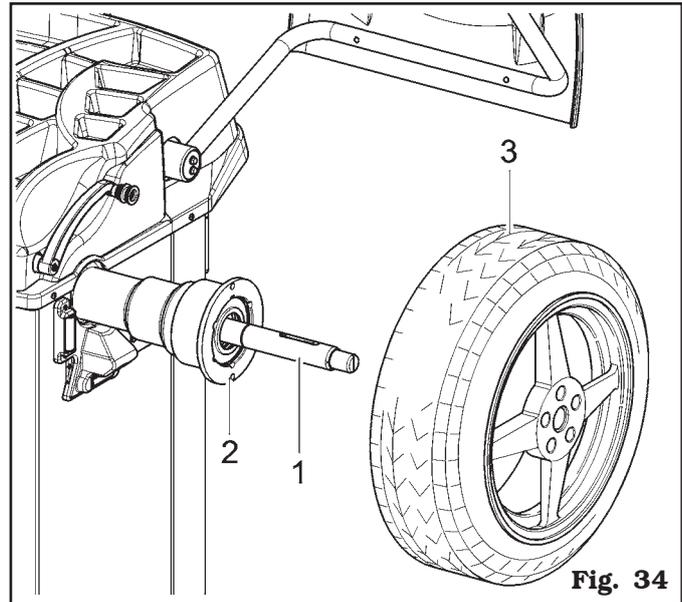

Fig. 34
5. Clean the mandrel (**Fig. 34 ref. 1**) before fitting the wheel.
6. Fit the wheel (**Fig. 34 ref. 3**) with the inside of the rim towards the wheel balancer, until the wheel is up against the support flange (**Fig. 34 ref. 2**).